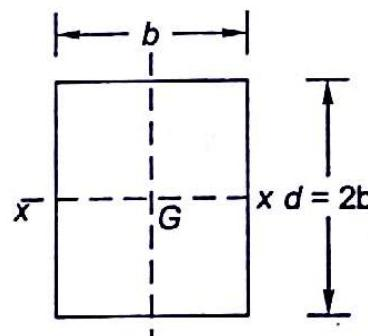

Fig. 8.17
8.2 Fig. 8.17 shows a rectangle with sides b and $d = 2b$.